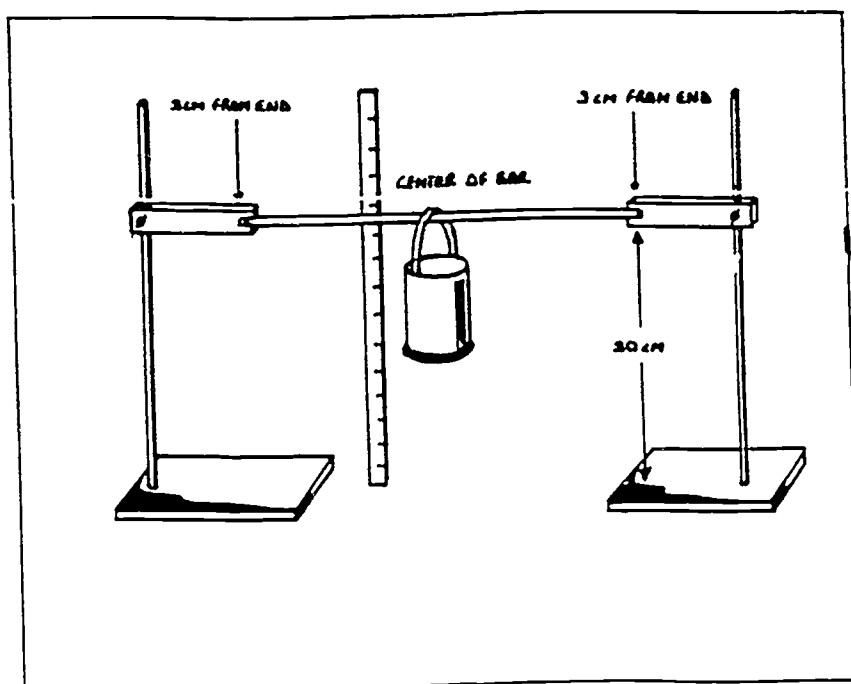

Fig. 24
1. Set up the apparatus as in fig. 24 below, using the length of wood from the old bat.